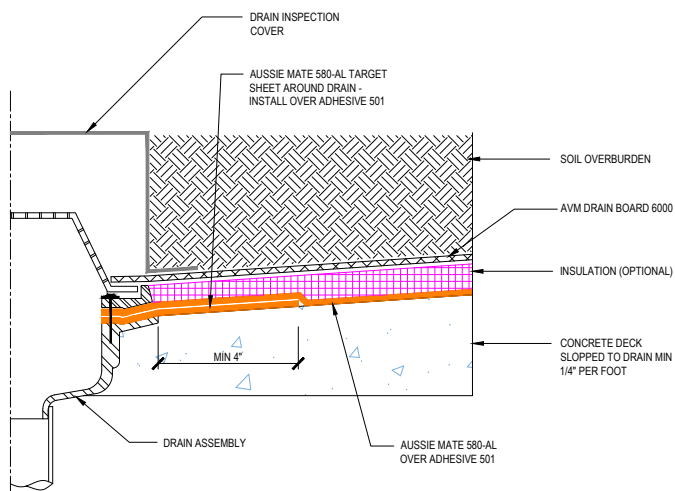

**FIGURE 3.2 – DECK PIPE PENETRATION**
**Figure 3.2** shows this done.